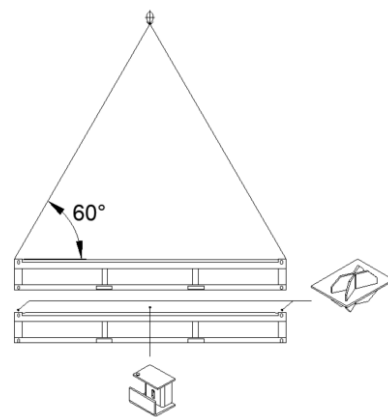
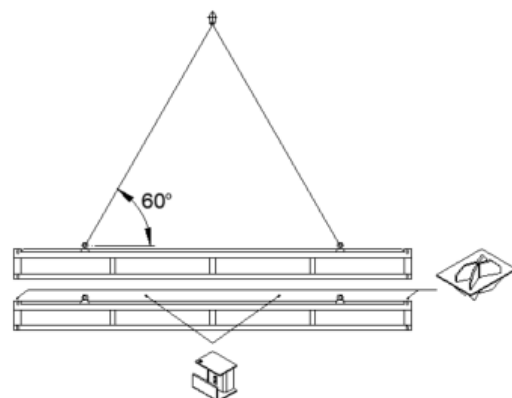

Fig. 2
Fig. 4
- Between each flatpack, 4 "stacking cones" (in the corners of each cabin) for 10', 16' and 20' and 2 support wedges for 16' and 20' (1 on each side of the top side rail - fig. 2) or 4 support wedges for 24' (2 on each side of the top side rail - fig.4) must be used.